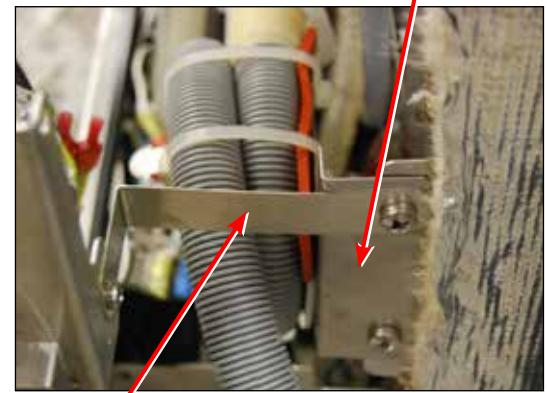

Figure 28b
- 3. Remove the horizontal brace. (Figure 28b)
- 4. Remove the exhaust assembly bracket. (Figure 28b)